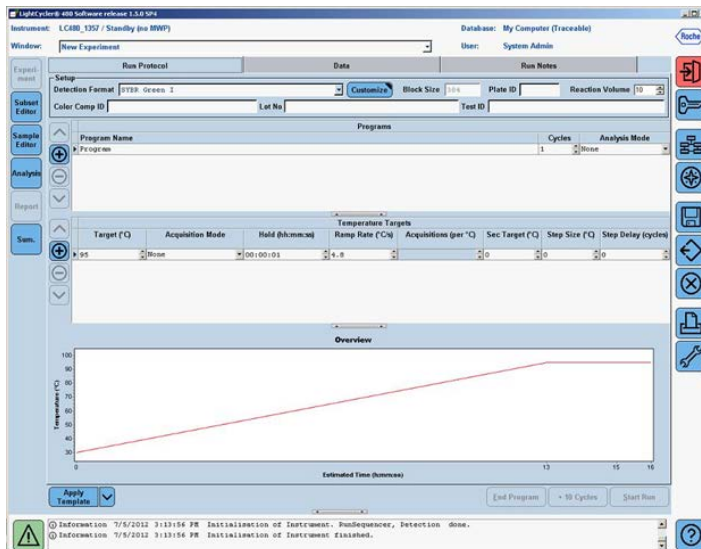

Figure 2. Initial Run Protocol window.
5. In the Setup area at the top of the Run Protocol tab (Figure 2), specify the following setup parameters: